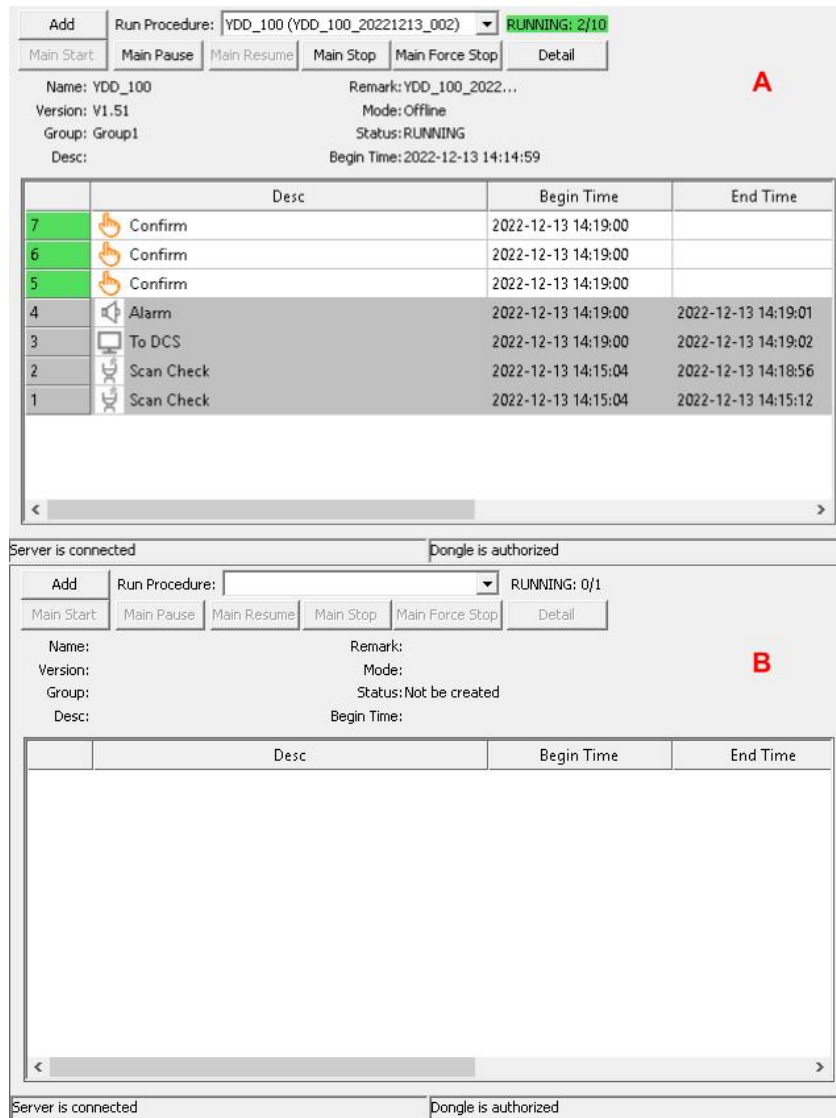

Figure 4- 1 Example of the To-do List in Real-time Monitoring
After successfully logging in to the monitoring software, you can view the monitoring period interface of the TODOLIST control, as shown in Figure 4- 1.
- If the main procedure you select is in the "Running" status in OMC Pilot, the TODOLIST control will directly display the main procedure's running information, operation buttons, and the running information of each procedure step in the OMC High-performanceHMI software, as shown in control A in Figure 4- 1. The steps are displayed in reverse chronological order and the step being executed is displayed at the top of the list. Then double-click the cell with the icon  or  in the "Type" column and confirm the